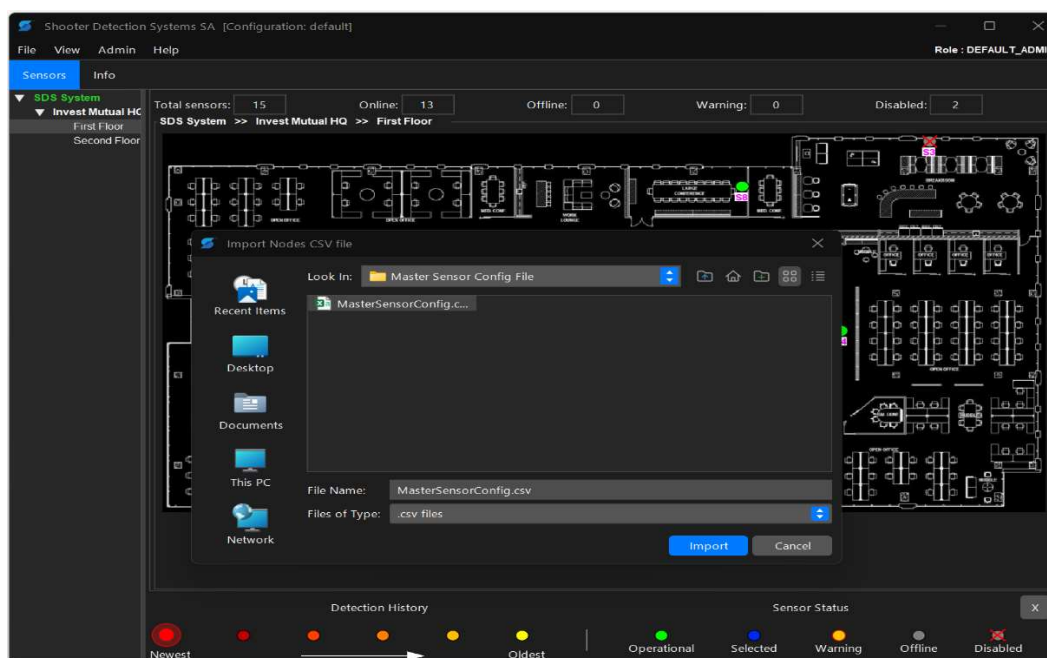

Figure 21 – Importing Sensors
1. Select **“Admin” → “Import Sensors”**. See Figure 21.